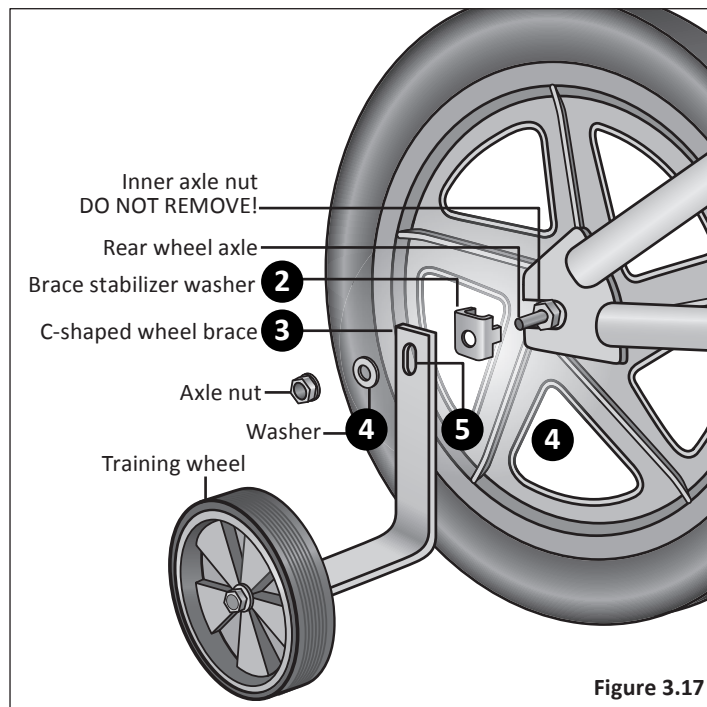

Figure 3.17
- ❶ Remove the outer axle nut and washer from the rear wheel axle. **Figure 3.17**
- ❷ Place the flat wheel brace onto the axle.
- ❸ Place the brace stabilizer washer onto the axle and align it so that the notch fits into the rear frame drop out.
- ❹ Replace the washer and axle nut.
- ❺ Tighten the axle nut securely, making sure that the wheel brace stays in the proper vertical position. The elongated hole on the wheel brace allows the training wheel height to be adjusted for proper fit.